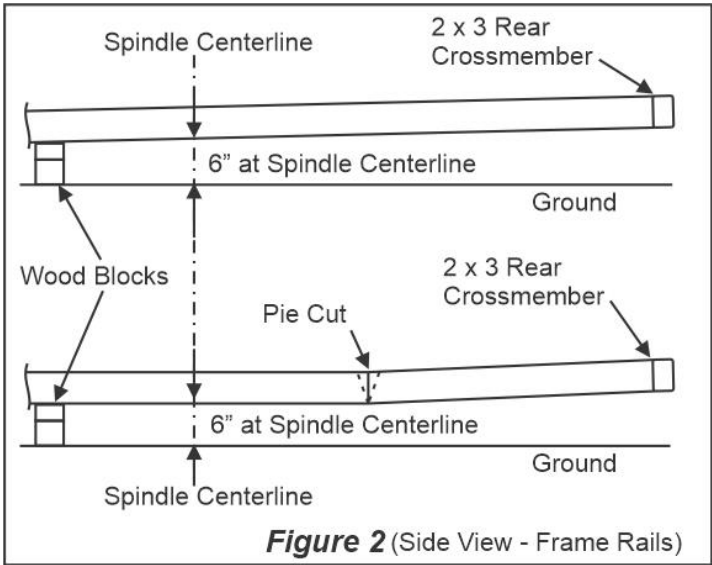

Figure 2 (Side View - Frame Rails)
4...The recommended frame rail width is 23" outside to outside and 6" to the bottom of the frame rails max. The minimum distance from the outside of the frame rails to the wheel hub is 16". **See Figure 2.**